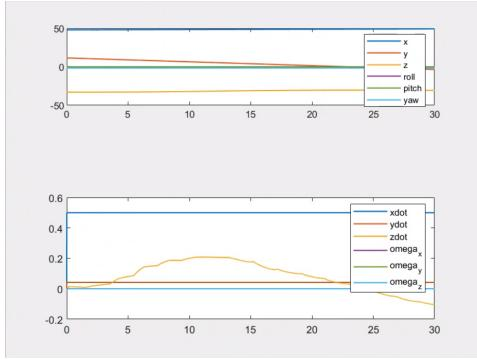

Figure 9: Position and velocities during the Minimum Altitude Vehicle task imposed 1m threshold
- **1 m:** This time the problem is the opposite. The control task is no more active at the starting instant. The UVMS starts to accomplish the *Vehicle Position* task, when the seafloor present an hill the UVMS start to follow the pattern (Figure 9). However, there are some troubles during the navigation because the "noise" of the robot, with only 1 meter of distance (and no  $\Delta$  that could prevent this), could touch the soil because the sensor it is on the center of the vehicle.